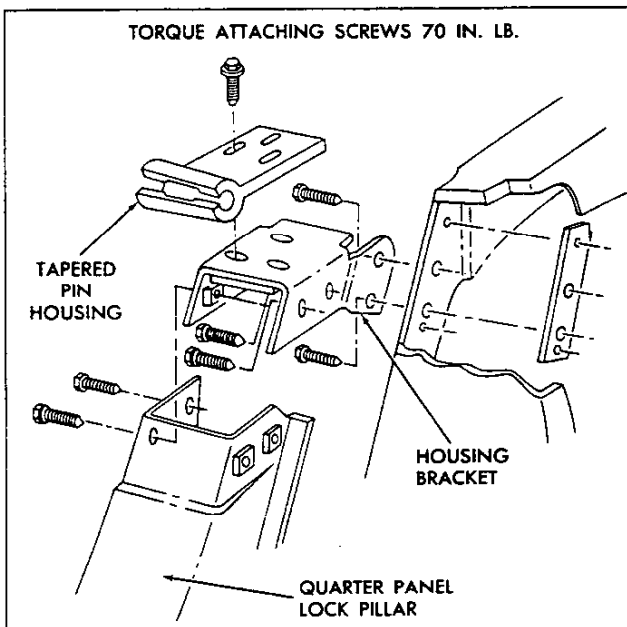

Fig. 19-Door Wedge Pin Housing and Bracket Location
The housing bracket mounted in the quarter panel and lock pillar has six (6) mounting bolts allowing for alignment up and down (fig. 19).